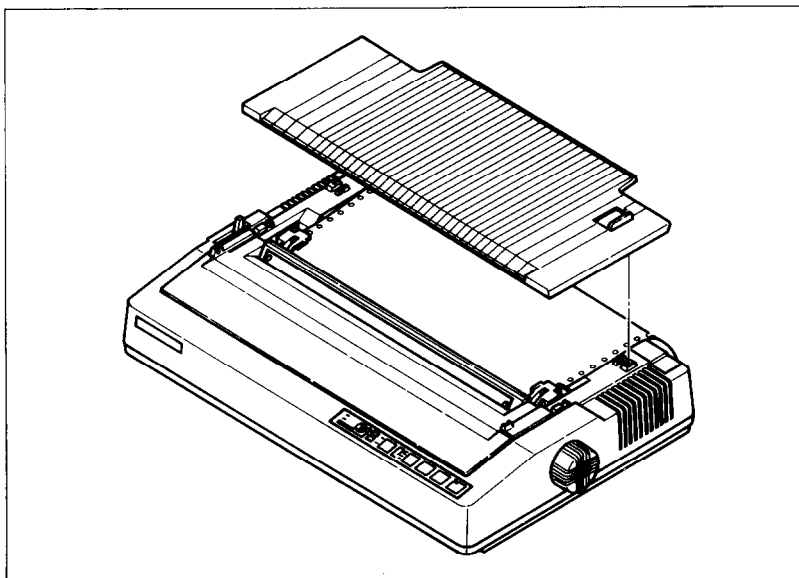

Figure 2-10. Ready to load the sprocket-feed paper. Note the reversed position of the paper.
8. Check that the paper is still positioned correctly, and close the sprocket covers (Figure 2-10).
11. Install the paper guide on the printer. See Figure 2-10 for details. When used with sprocket-feed paper, the guide is turned around and laid flat on top of the printer as a paper separator. Make sure that the tabs on the guide fit into their receivers.